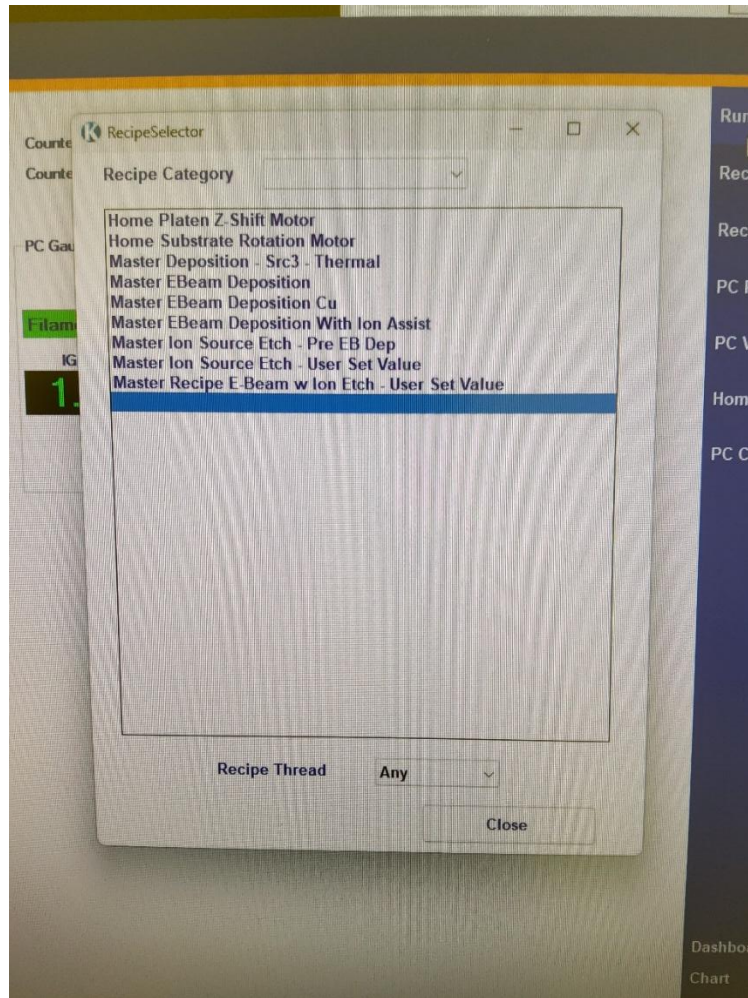

Figure 5
8. Select “Run Recipe” from the process bar. The “Recipe Selection” box will appear and is shown in Figure 5.